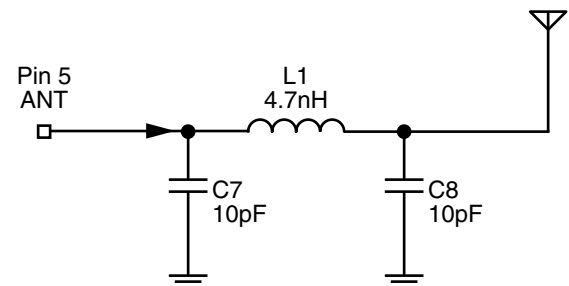
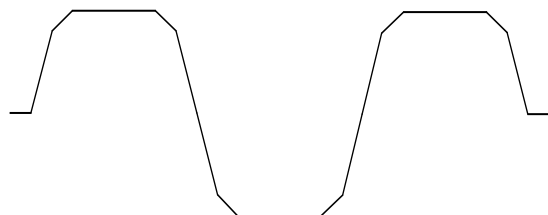

Figure 14. LC Filter
Figure 15. Modulator Waveform and Clock
A $f_{\text{MOD_CLK}}$ of 8 times the bit rate (as in Figure 14) corresponds to a signal filtered in a gaussian filter with a Bandwidth(Period-product (BT) of 1. When BT is increased, the waveform will be less filtered. Minimum BT is 1 (Mod_clk is 8 times the bitrate). Figure 14 shows two waveforms with BT=1 and BT=2, i.e. the Mod_clk is 8 and 16 times higher than the bit rate. When changing the BT factor, the charge- and discharge times will also be changed, and therefore the frequency deviation, as shown in Figure 15.
The current used during the rise- and fall times can be programmed with the Mod_I4..Mod_I0 bit, the last one being LSB. Figure 15 shows two waveforms generated with two different currents, where Mod_Ia > Mod_Ib. Higher current will give a higher frequency deviation and vice versa. The effect of modulator clock and MOD_1 is illustrated by